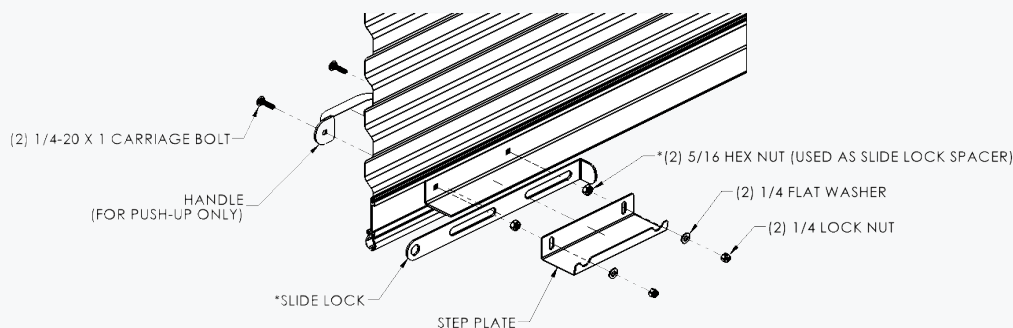

figure 19: Slidelock & Step Plate (Manual Operation)
- ✦ For chain hoist operated doors, lower the bottom bar and install the slide lock and step plate using (2) 1/4-20 x 1" carriage bolts, (2) 5/16-18 hex nuts, (2) 1/4 flat washers and (2) 1/4-20 nylon lock nuts. Do this at both ends of bottom bar. **See Figure 19.**
- ✦ \*For electrically operated doors, lower bottom bar and install step plate using (2) 1/4-20 x 5/8 carriage bolts and (2) 1/4-20 Keps nuts. **See Figure 19 (OMIT SLIDE LOCK)**